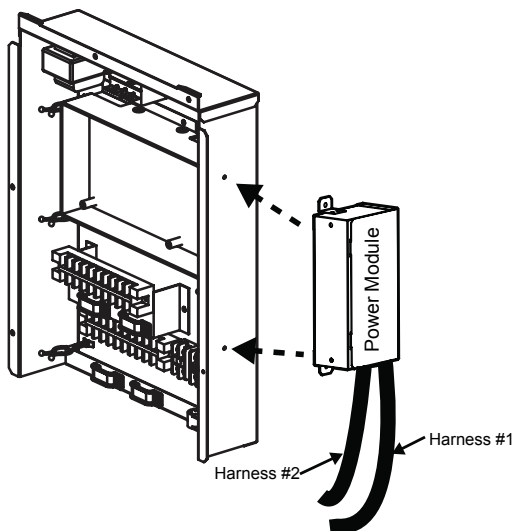

Figure 33: Securing Power Module to Control Panel
2. Secure the power module to the wall of the Hydro Kit control panel (Figure 33).